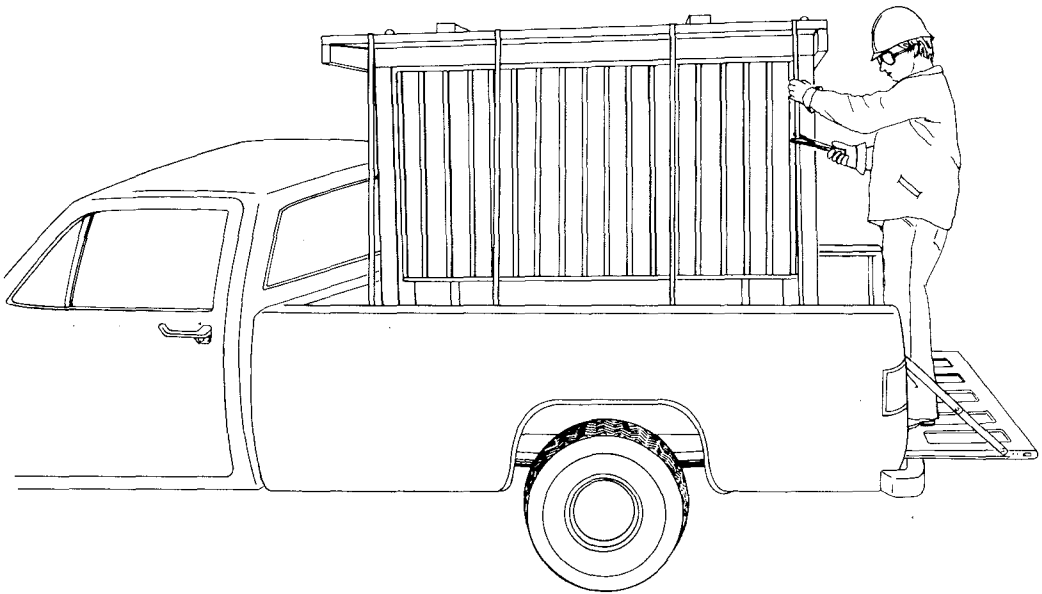
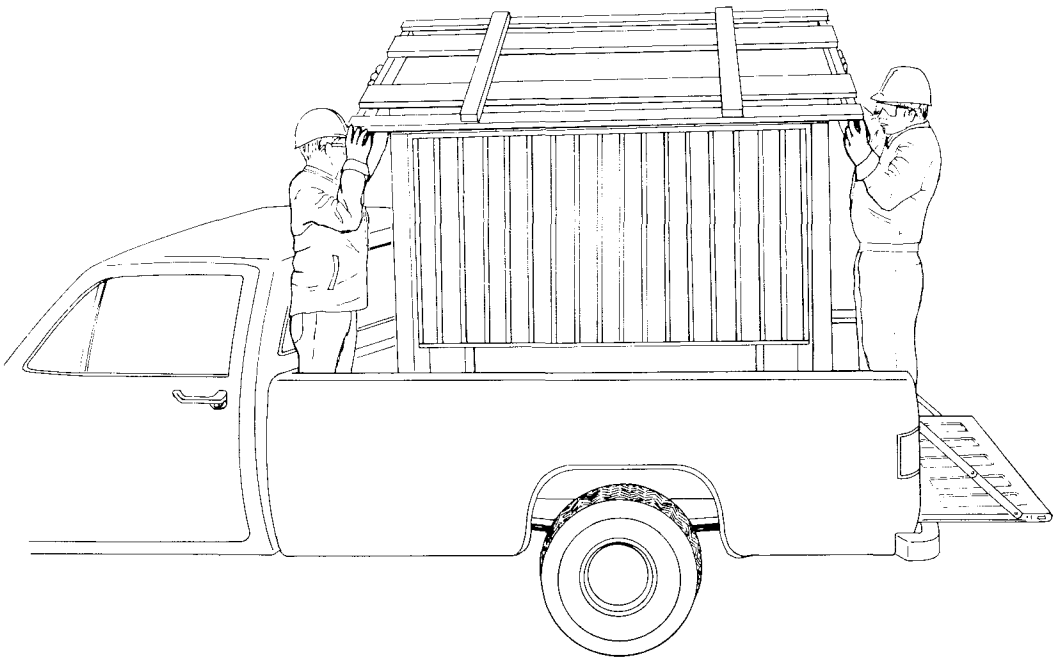

Fig. 11—Removing Banding
Fig. 12—Removing Top Pallet
5.03 After the cabinet is delivered to the site, remove the banding (Fig. 11) and the pallet from the top of the cabinet (Fig. 12). Mounting hardware and an instruction sheet are supplied with the cabinet. Do not discard these items. Do not remove the bolts securing the cabinet to the bottom pallet. At-